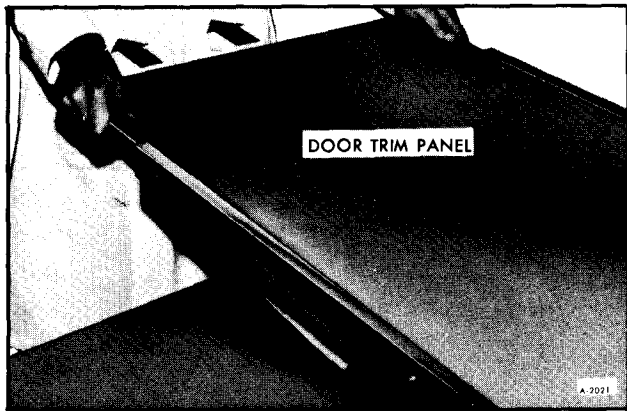

Figure 19—Removing Trim Panel
4. Trim panel can now be removed by sliding it out the bottom (figure 19).